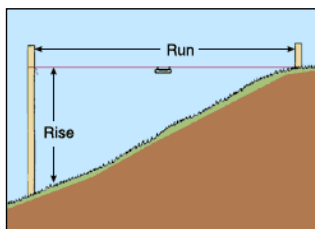

Figure 1
**STEP 1.** Measure the overall rise and run of your steps in inches (figure 1).